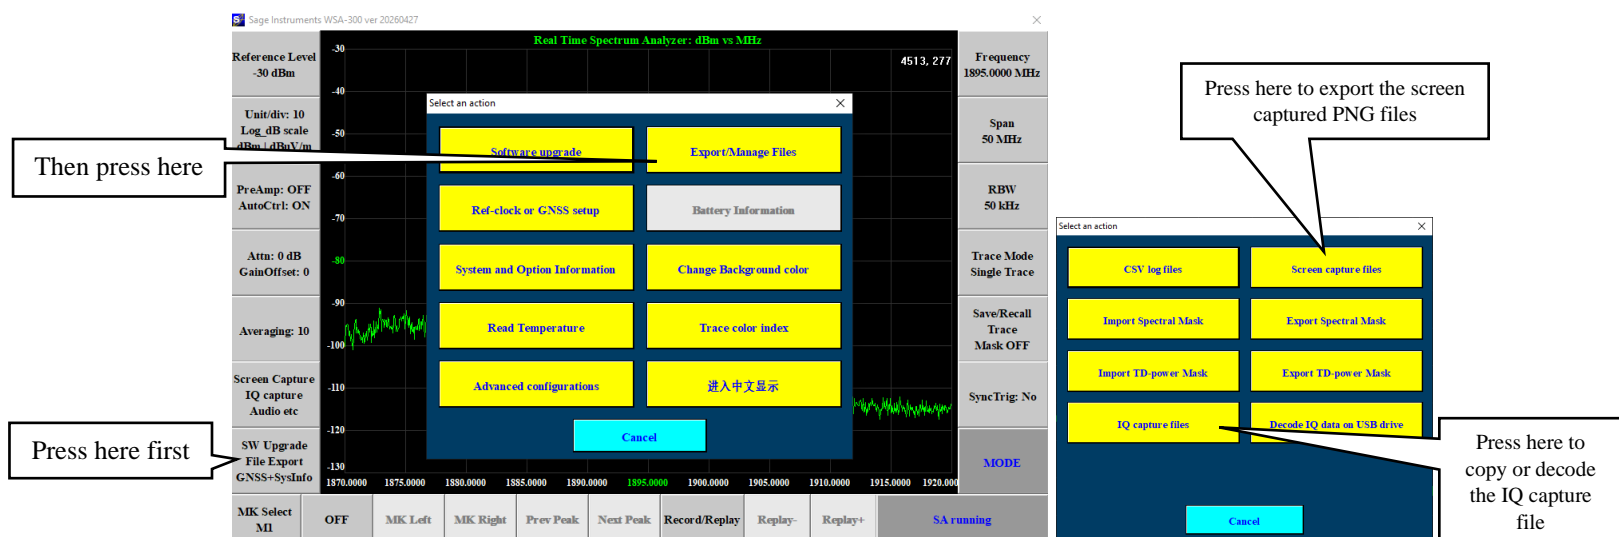

Figure 5 - Steps to take to export the various test results files from a WSA-408 to a USB drive
2. Press the lower left button and then “Export/File management” and you'll see dialogs as shown in Figure 5. Select the proper file types and follow the dialog instructions.
1. Use the built-in utility as shown in Figure 5. This is suitable for the light-weight users who perform IQ capturing occasionally using a WSA-408 in the field. And while capturing IQ data, a USB drive was not available, so the .iqr files were saved inside the WSA-408. A user has to get these files out to a USB drive later by steps listed in Figure 5. On the file type selection at the right of Figure 5, the user should select the lower left one “IQ capture file” and then select all the .iqr files and then select “Decode then delete the original” as shown below in Figure 12. For large IQ files or lots of IQ files, this may take a while. So be patient!